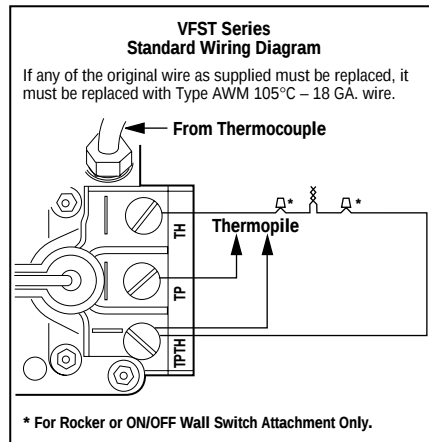
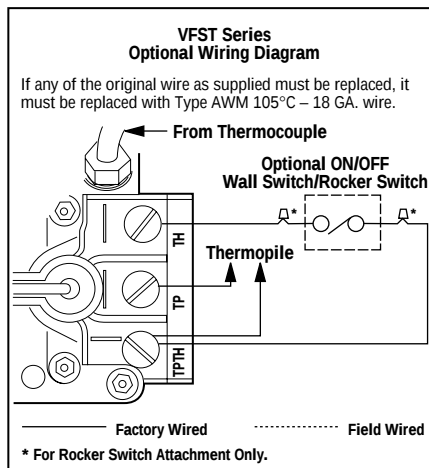

Figure 12
Figure 13
Step 6. Installing the Optional Remote Wall Switch – The standard millivolt system comes from the factory wired as shown in *Figure 12*. Select a convenient location for the remote wall switch and connect the wiring to the appliance (*Figure 13*).
An optional wall switch kit can be installed along with all vent-free appliances. The kit consists of a standard UL wall switch with cover plate. This kit provides for remote (wall) operation of the appliance. Replace the wall switch and cover plate of this kit with the components of the FWSK and you can have true remote control of your vent-free appliance, turning it on and off from your favorite easy chair. The wall switch kit should be installed along with the appliance. Refer to *Figure 13* and Step 6 for detailed installation instructions.